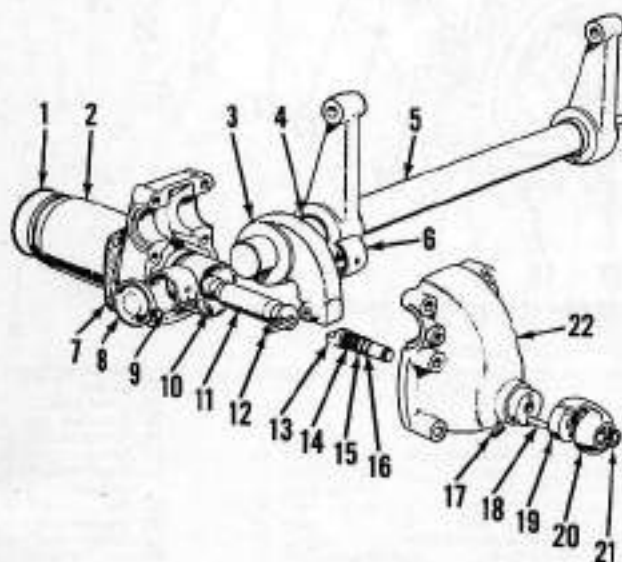
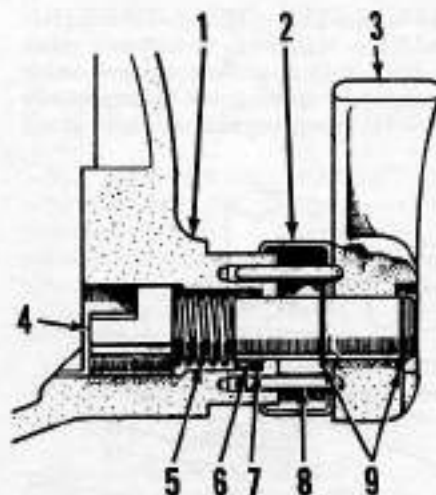

Fig. 216—Exploded view of rockshaft cylinder, brackets and rockshaft.
Fig. 218—Sectional view of lift-latch used on early production models.
Rockshaft cylinder piston may be removed without removing rockshaft cylinder from axle housing. Support lift linkage in fully raised position. Remove rockshaft cylinder cover (22—Fig. 216) and drive pin (12) from connecting rod and remove rod. Remove three-way valve or connector from front end of cylinder, insert small diameter rod through oil feed hole to push piston (10) out of cylinder.
**394. LIFT LATCH.** Lift latch is installed on early models to mechanically hold lift linkage in raise position. During normal operation of hydraulic system, latch (4—Fig. 218) is held in retracted position by lever (3) riding out on pins (8). To engage latch, raise lift arms and turn lever (3) so pins enter recesses and latch is pushed forward to engage rockshaft cylinder arm (3—Fig. 216).
To disassemble, make certain latch is not supporting weight and remove rockshaft cylinder cover (22—Fig. 216). Remove snap rings (9) and remove lever, spacer, spring and latch. Remove "O" ring (7). Pins (8) are needle bearing rollers and extremely hard. If broken off in holes, new holes may be drilled at slightly offset position from old holes and new rollers installed.